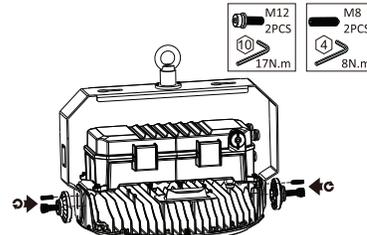

Fig. 20
3. Secure multi-mount bracket to fixture by re-attaching yoke mount plates on each side of the fixture (Fig. 20).